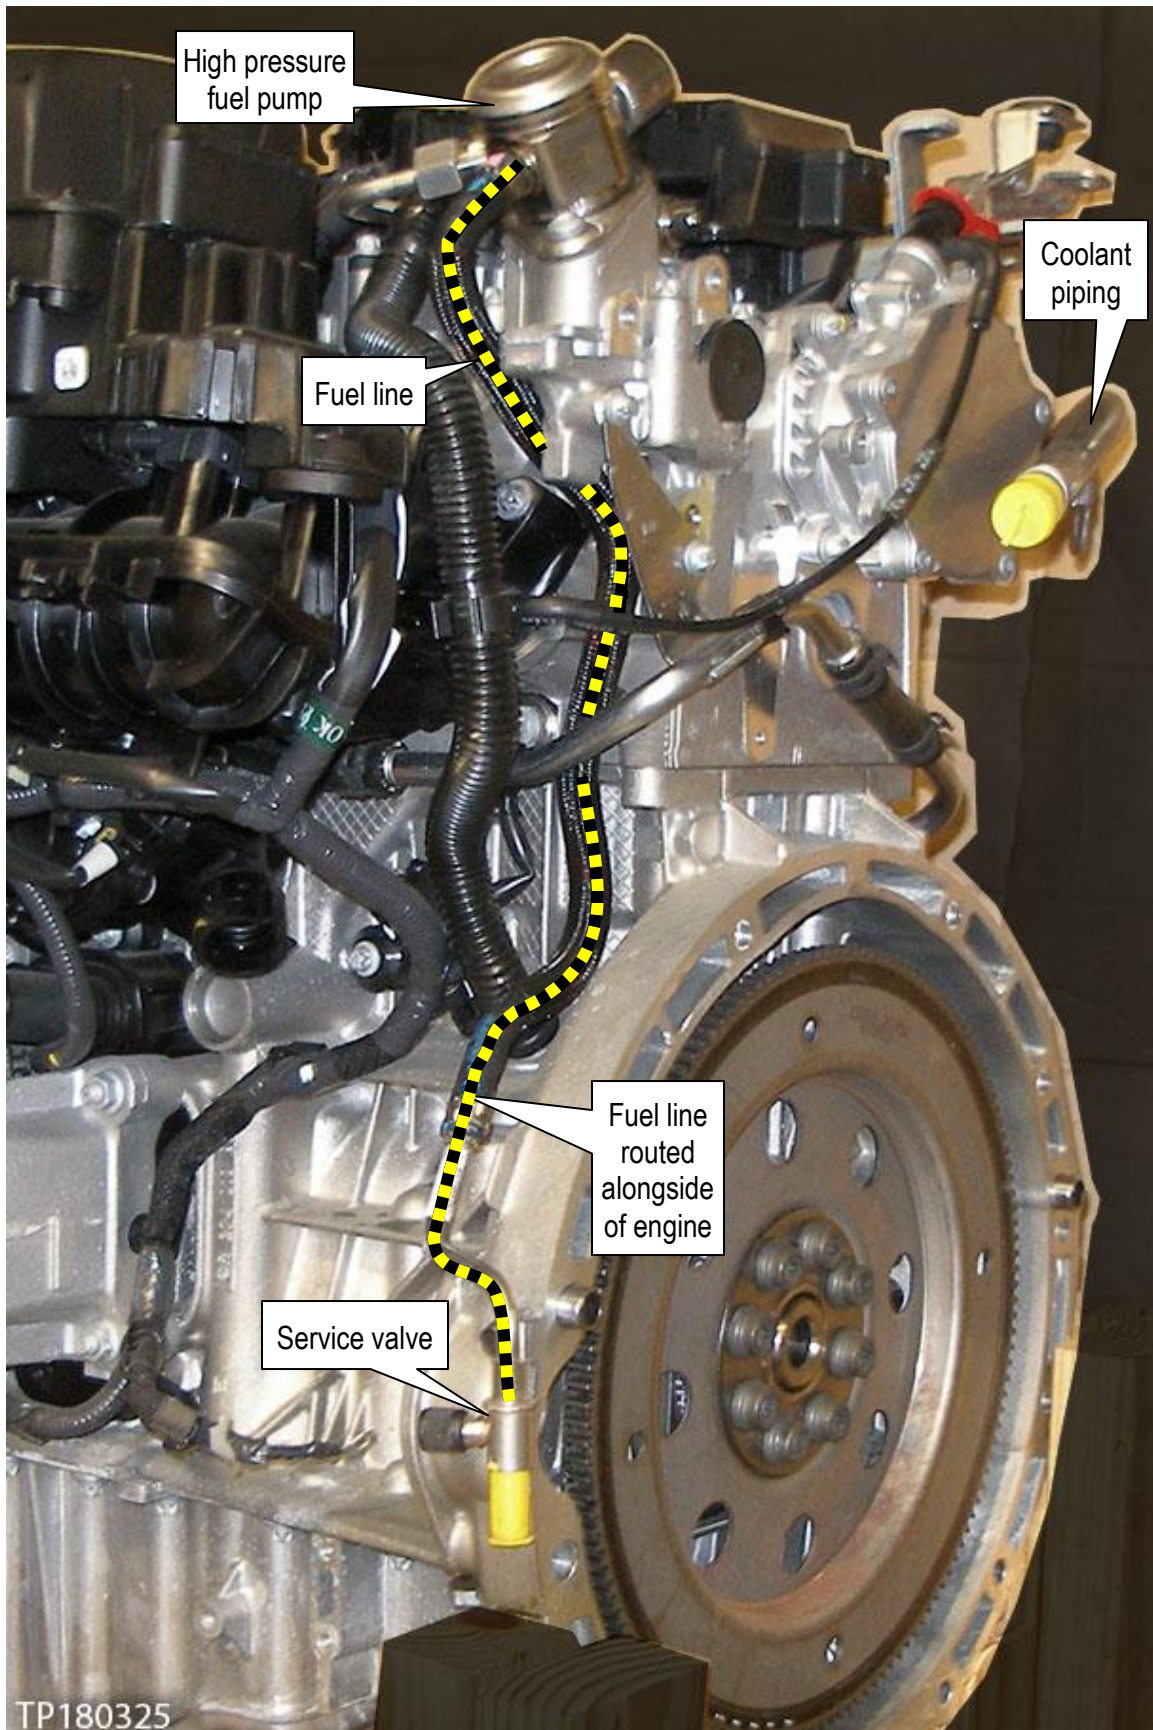

Figure 16
**NOTE:** A bracket and some other parts were removed for better viewing only. These parts do not need to be moved for this procedure. Also refer to Figure 16 on the next page.
Figure 16 shows the engine out of the vehicle. This is for viewing purposes only.